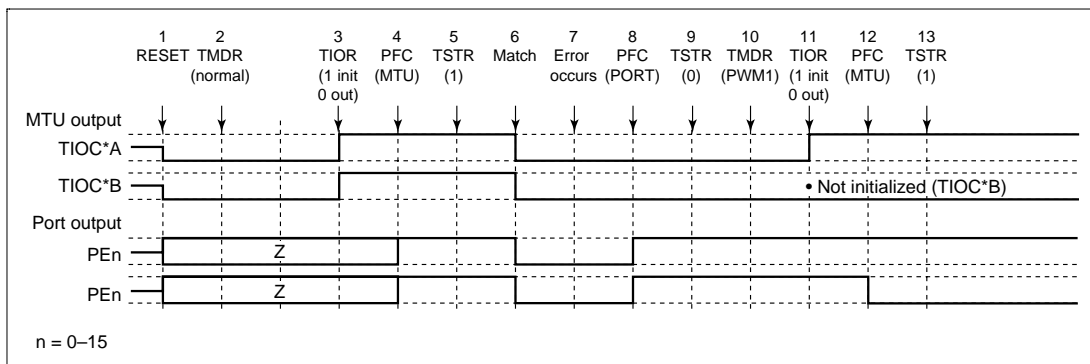

Figure 10.61 Error Occurrence in Normal Mode, Recovery in PWM Mode 1
(2) Operation when Error Occurs during Normal Mode Operation, and Operation is Restarted in PWM Mode 1: Figure 10.61 shows an explanatory diagram of the case where an error occurs in normal mode and operation is restarted in PWM mode 1 after re-setting.